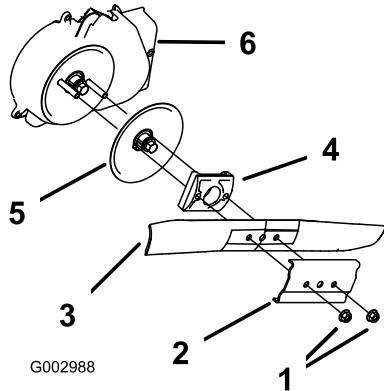

Figure 53
3. Remove the 2 blade nuts and the stiffener (Figure 53).
4. Remove the blade (Figure 53).
5. Remove the blade driver and disk (Figure 53).
6. Remove the blade brake clutch shield (Figure 53).
8. Install the blade brake clutch shield (Figure 53).
9. Install the blade driver (Figure 53).
10. Install the blade (Figure 53).
11. Install the stiffener (Figure 53).